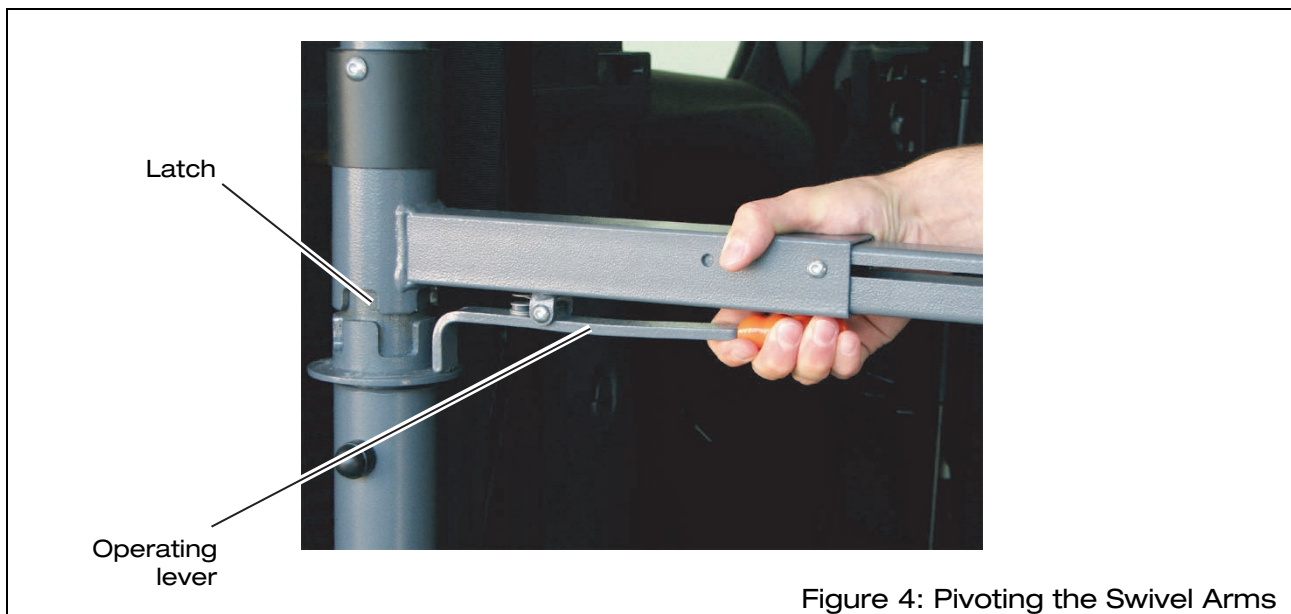

Figure 4: Pivoting the Swivel Arms
- ⇒ Pull the operating lever of a swivel arm upwards, so that it lifts out of the latch (see Figure 4).